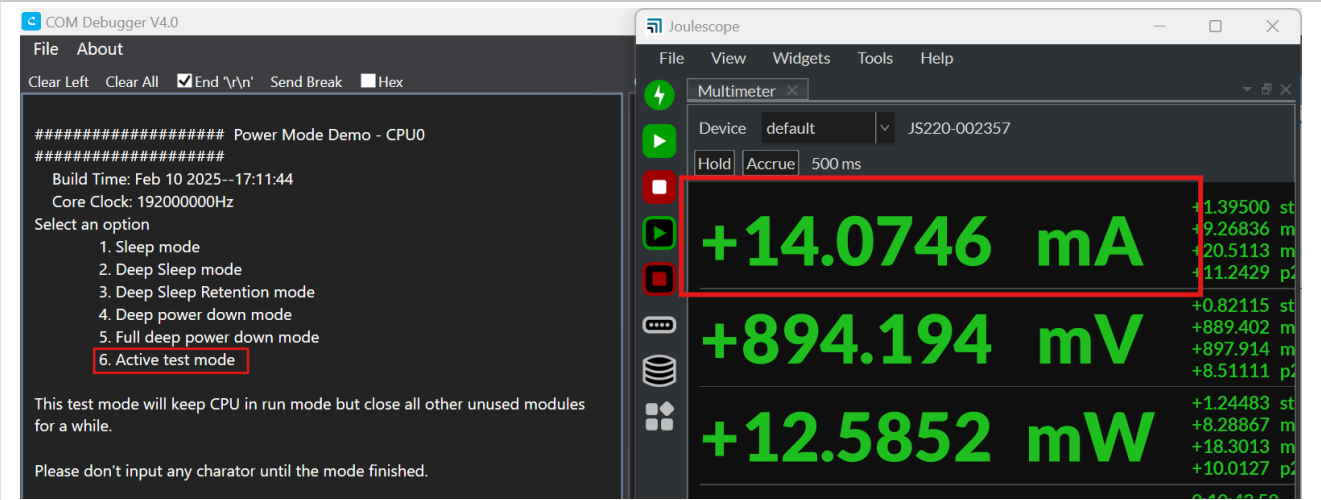

Figure 10. Log from the CPU0 com port and the power number of VDD2
13. After the demo boots successfully, see the log from the CPU0 com port. For more details, see Figure 10. The default setting of CPU0 is 192 MHz/0.9 V. To measure the power consumption data and JP1 current on the MIMXRT700-EVK board, select the option 6 **Active test mode**. Figure 10 shows the power number of VDD2. For power measurements, you could use the Joulescope or digital multimeter. When measuring the current, a multimeter is connected in series with the circuit, which causes a certain voltage drop and triggers the LVD. Therefore, it is necessary to configure the LVD. In the "hardware_init.c", find "POWER_SelectRunSetpoint(kRegulator_Vdd2LDO, 2U)" and change the value from "2" to "0".